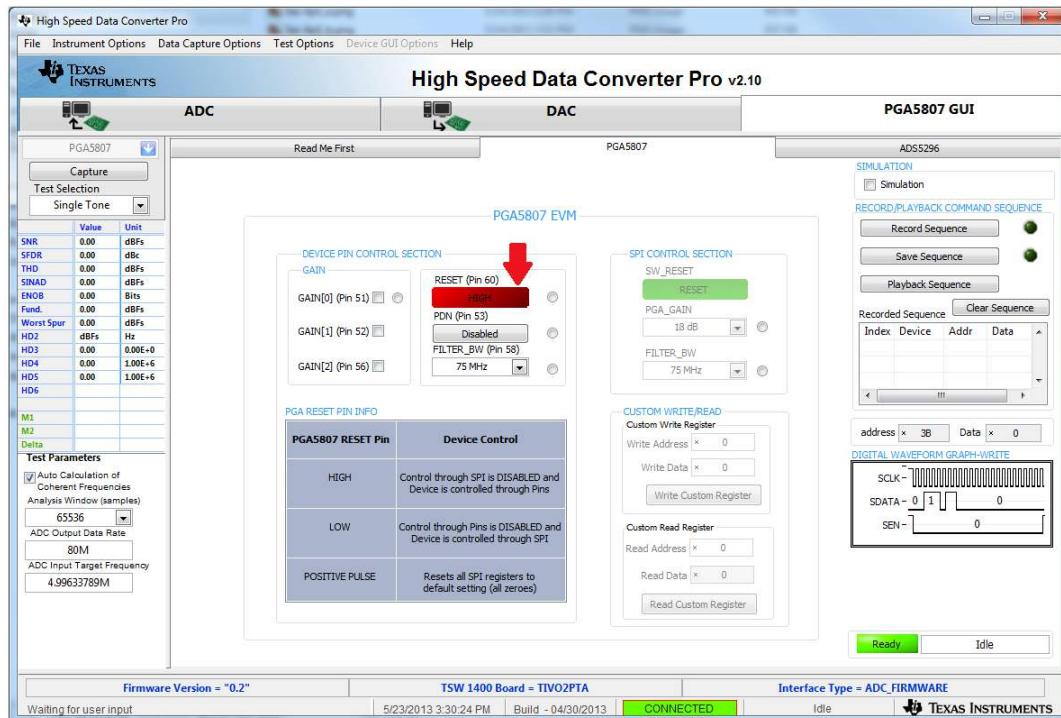

Figure 48. PGA5807 GUI Setup for PGA5807A + ADS5296A Gain Test 3
6. The same gain test can be performed using the device pins to set the gain instead of the SPI. At the **PGA5807** tab, change the state of the **RESET (Pin 60)** control to **HIGH**. This will disable the **SPI CONTROL SECTION** and enable the **DEVICE PIN CONTROL SECTION** as shown in Figure 48.